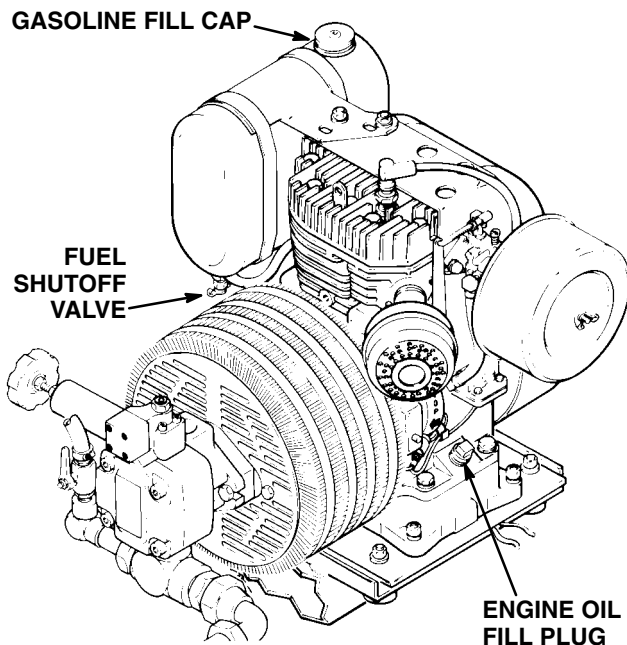

Fig 4
- a. Unscrew the oil fill plug. See Fig 4. The dipstick is attached to the plug.
- a. Close the fuel tank valve. See Fig 4.
- c. Remove the fuel fill cap and fill the tank. Be sure the air vent in the fill cap is not plugged so fuel can flow to the carburetor, then replace the cap. See Fig 4.